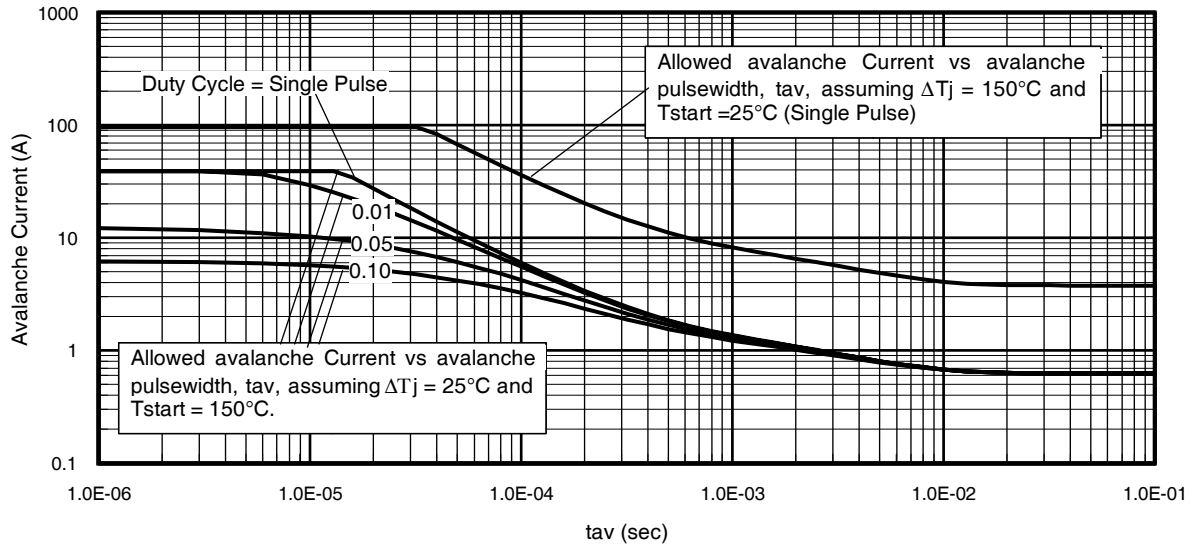

Fig 14. Typical Avalanche Current vs. Pulsewidth
| $I_{AR}$                     | Avalanche Current ①             | See Fig. 14, 15, 16a, 16b | A  |
**Notes on Repetitive Avalanche Curves , Figures 14, 15:**
- $\Delta T$  = Allowable rise in junction temperature, not to exceed  $T_{jmax}$  (assumed as  $25^{\circ}\text{C}$  in Figure 14, 15).